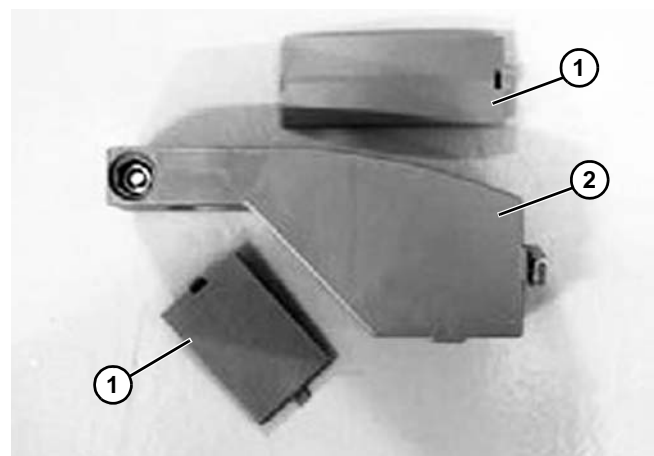

Figure 95
1. Open the upper and lower caps (**Figure 95, item 1**) and prepare the FGRB - 40 guide rail bracket (**Figure 95, item 2**) with T-bolt.